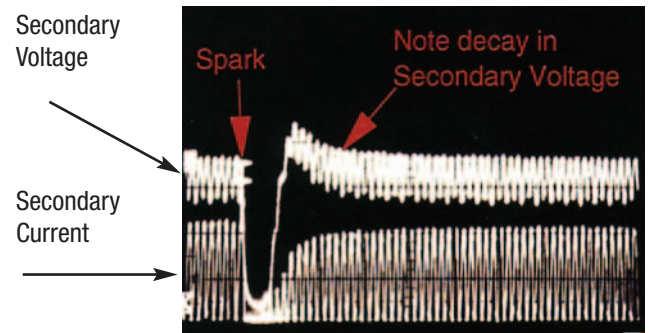
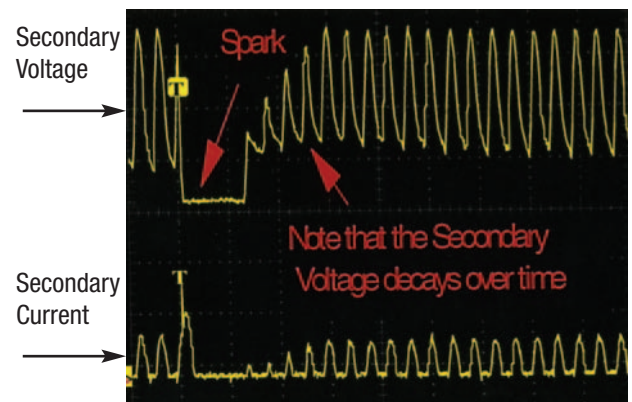

Figure 16: Scope trace showing back corona (secondary voltage rises then drops as current increases)
Figure 17: Scope trace showing back corona (classic decay of KV waveform as current increases)
point is reached where the secondary voltage (KV) does not increase further or reduces as secondary current (MA) continues to increase. Figure 16's oscillogram shows the secondary voltage rising but then dropping as current continues to increase. Figure 17 shows a classic decay in the trough of the KV waveform with increasing current indicating back corona.